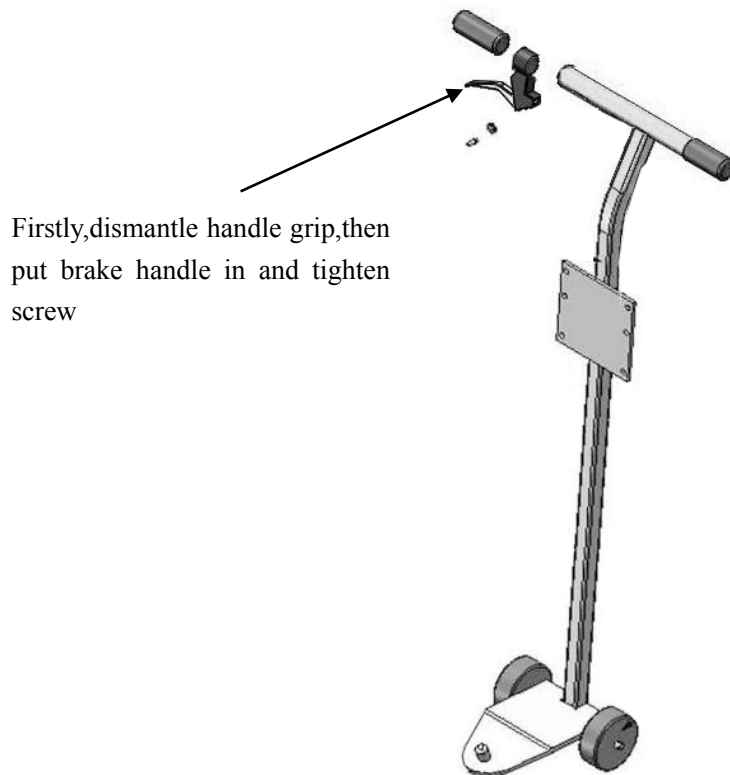

Fig. 6
B. Install brake handle (See Fig. 6)